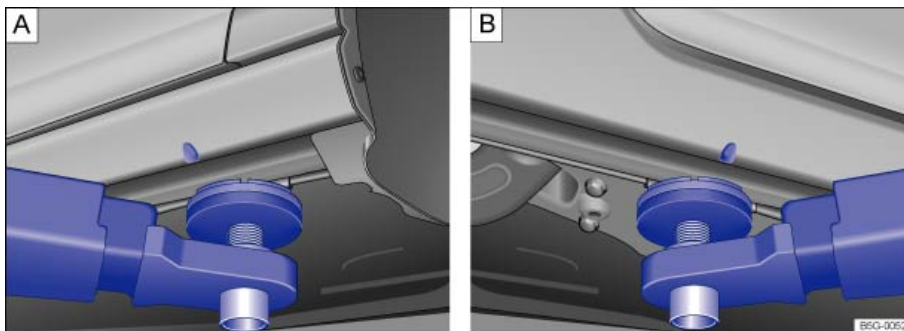

Fig. 164 A: Lifting point at the front. B: Lifting point at rear for lifting the vehicle using a workshop hoist or floor jack.
The vehicle may only be raised at the lift points shown in the illustration ⇒ fig. 164. If the vehicle is lifted at different points, vehicle damage ⇒ ① and serious injuries may occur ⇒ ⚠.